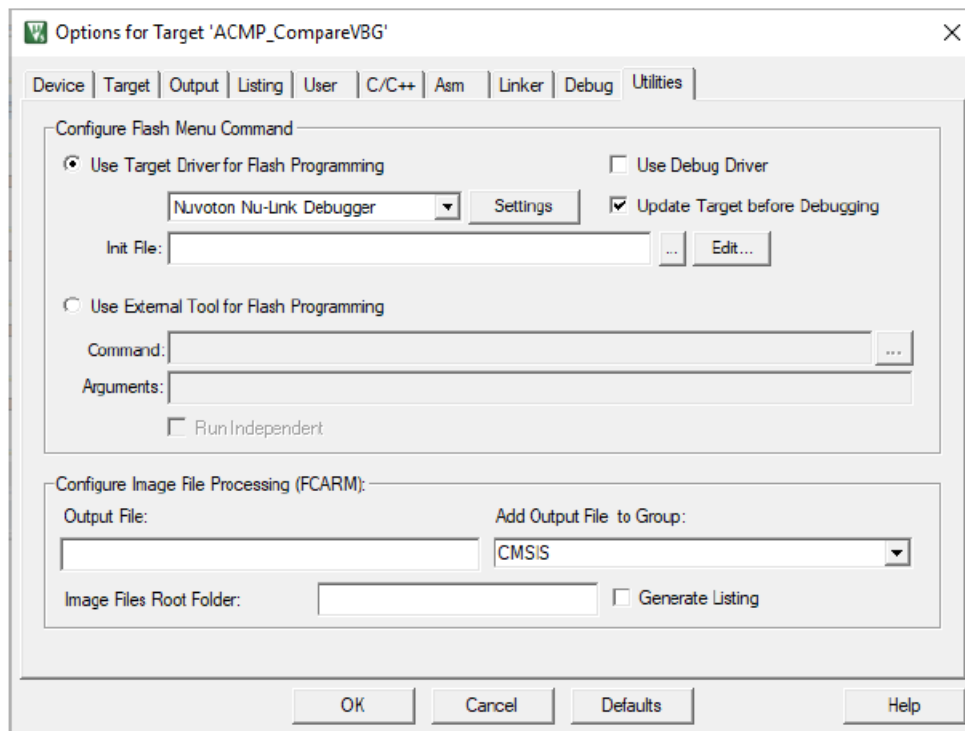

Figure 4-12 Keil MDK Programmer Selection
Step 6: Invoke **Project** → **Options for Target** → **Utilities**, select “Nuvoton Nu-Link M0 Debugger” when the Use Target Driver for Flash Programming option is enabled, and then select the Update Target before Debugging option, as shown in Figure 4-12.